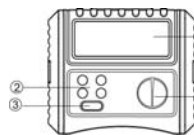

Figure 1
- Power: Alkaline battery 1.5V (AA) $\times$ 8pcs
- Accessories: Test leads, alkaline battery 1.5V (AA) $\times$ 8pcs, operating manual, carrying bag
V. Tester Description (See Figures 1 & 2)